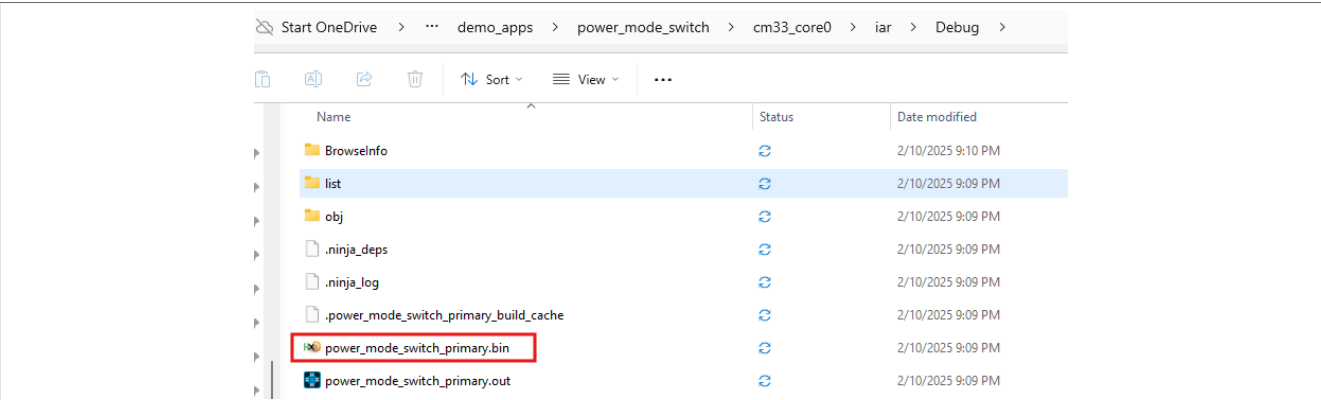

Figure 20. Generate the binary file
- To generate the binary file **power_mode_switch_primary.bin**, compile the primary project. Figure 20 shows the binary file.